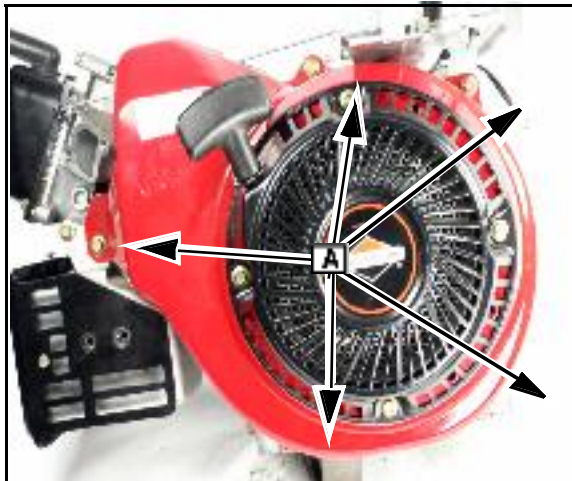

Fig. 4
1. Remove the five screws ([A] Fig. 4) that secure the blower housing to the engine block.